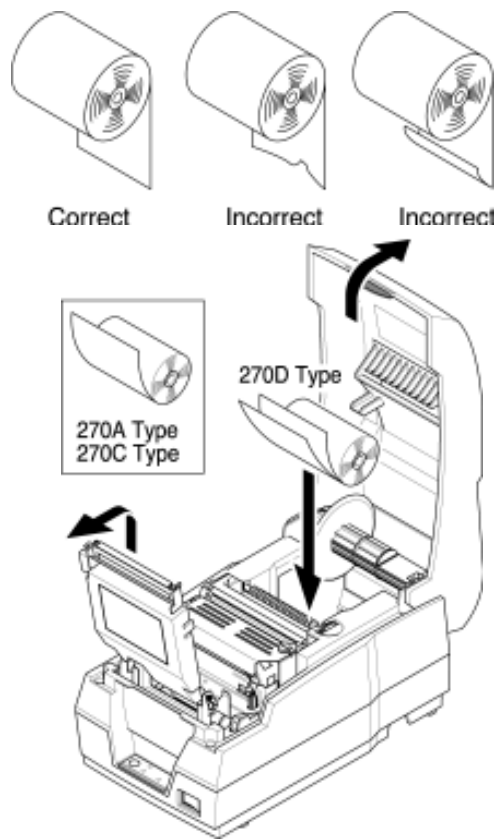

Figure 3-5. Installing Printer Paper Roll
16. Install printer paper roll (see Figure 3-5).